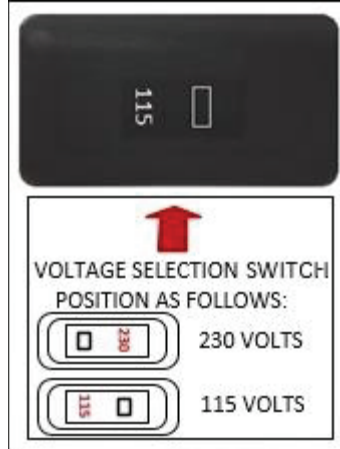

Figure 2 – Voltage Selection Switch
4. Flip the **Voltage Selection Switch** in the High Voltage compartment to the right for **115 Vac** operation (Figure 2). 115 should now be visible on the switch.